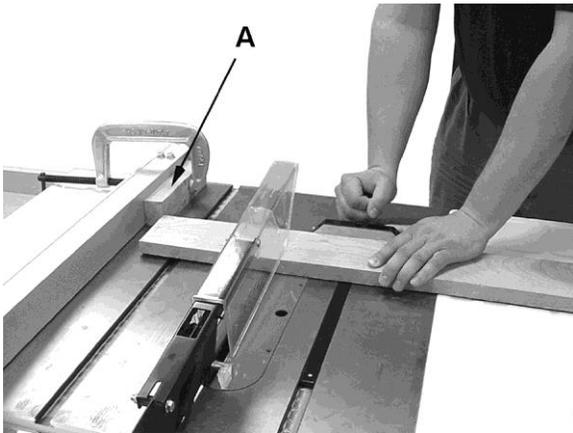

Figure 8-9
- Do not use the miter gauge and rip fence in the same operation unless provision is made by use of a facing board on the fence so as to allow the cutoff section of the workpiece to come free before the next cut is started (See Figure 8-9).
Crosscutting should **never** be done freehand nor should the fence be used as an end stop unless an auxiliary block (A, Figure 8-9) is clamped to the front of the blade area such that the cutoff piece comes free of the block before cutting starts.